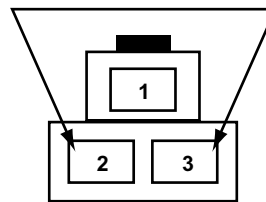

Figure 10-12 1988–89 Impulse jump pins
- Jump pins 2 and 3 as shown in Figure 10-12.